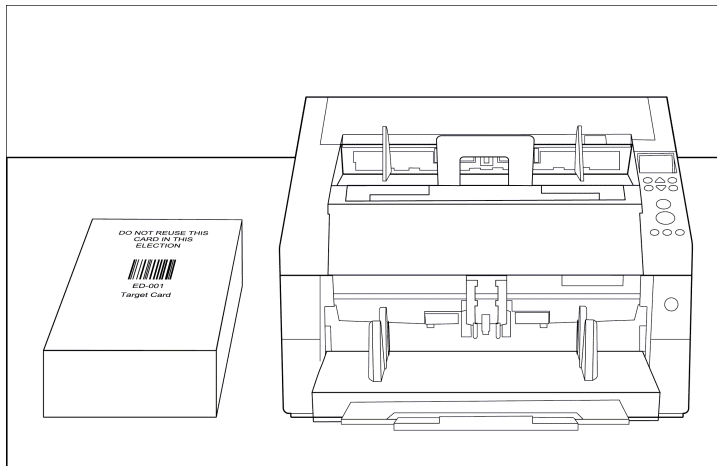

Figure 5-1. Stack of cards on the left side of the table
3. Begin the card verification process with the stack of cards face up on the left side of the table, with the target card on top (Figure 5-1).